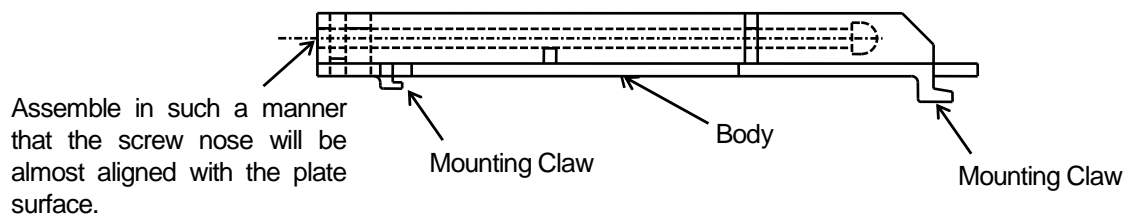

Fig. 3.2 Mounting bracket
- 1) Assemble the mounting bracket refer to Fig.3.2.